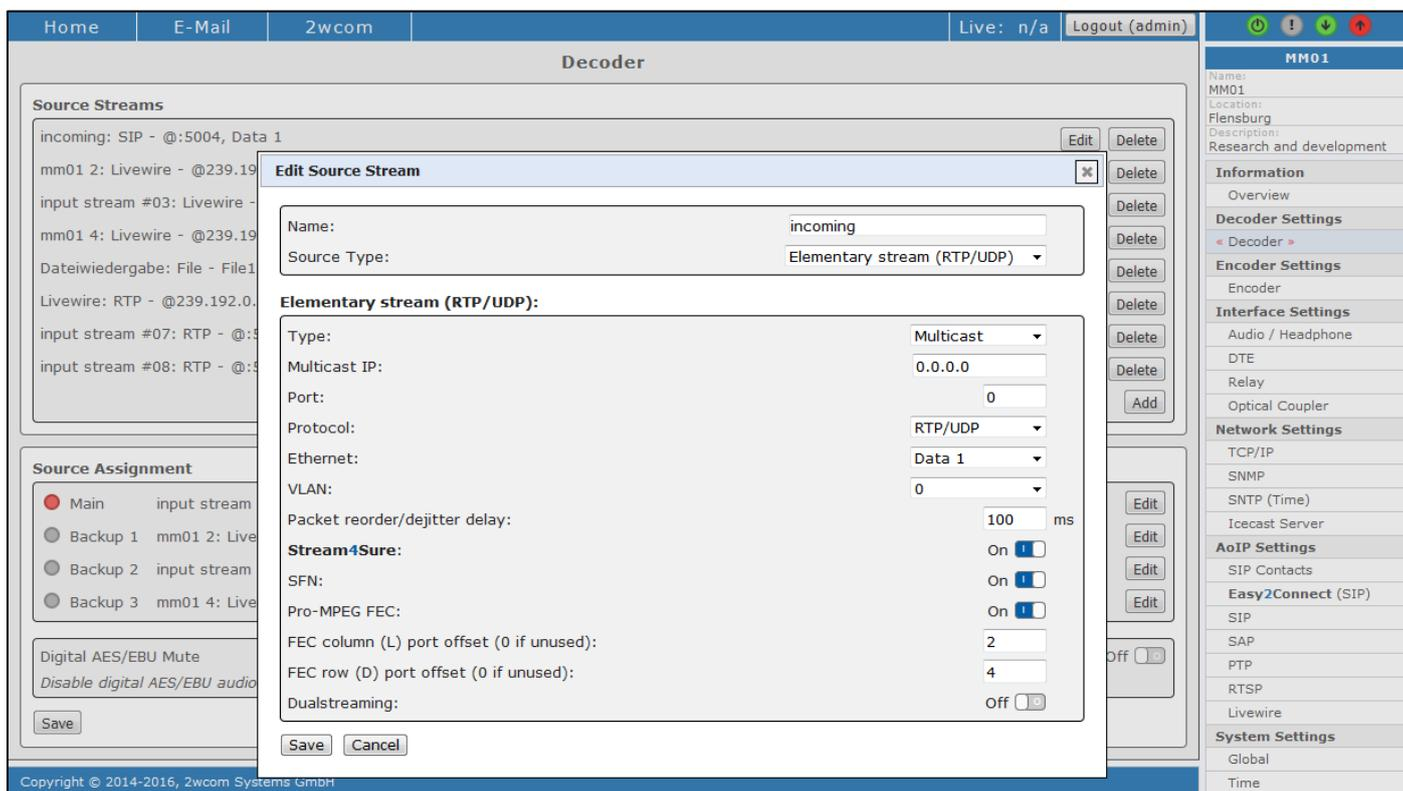

Figure 34: Input Source Settings – Elementary stream (RTP/UDP)
1. Choose "Elementary stream (RTP/UDP)" in the field **Source Type**. The menu will be extended to the block **Elementary stream (RTP/UDP)** (see Figure 34).